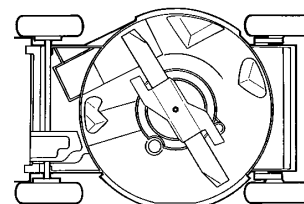

Figure 20
3. Tip the mower on its left side (Fig. 20). Avoid rotating the blade because starting problems may result.